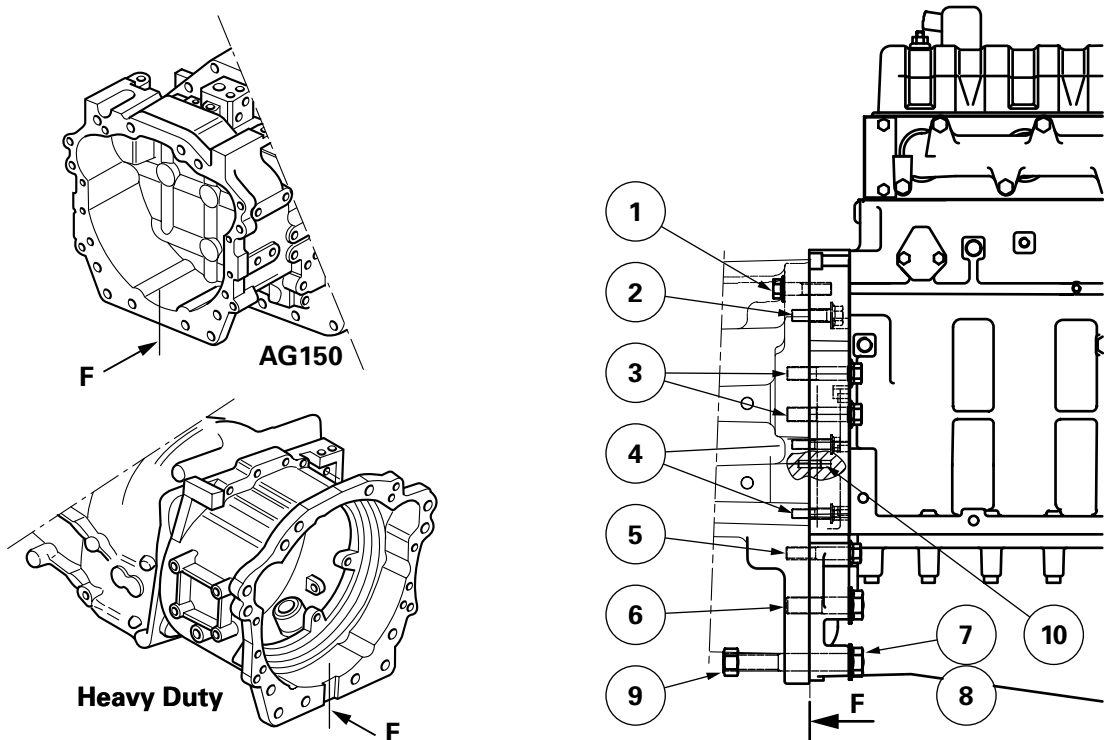

Fig. 8
24. Check the presence of the two locating pins (**10**) on the engine (Fig. 8).
Full Powershift (AG150) and Heavy Duty gearboxes (Fig. 8)